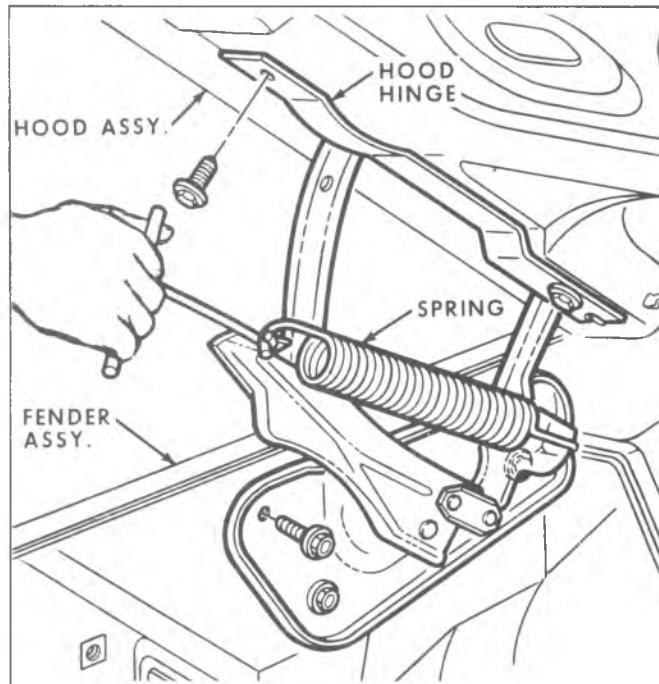

Fig. 2—Hood Hinge and Spring—CK Series
2. As shown in Figure 2, engage hooked end of tool to spring, then carefully pull forward to engage or disengage spring from hinge assembly.
#### **Hood Hinge (Fig. 2)**
### Alignment (Fig. 2)